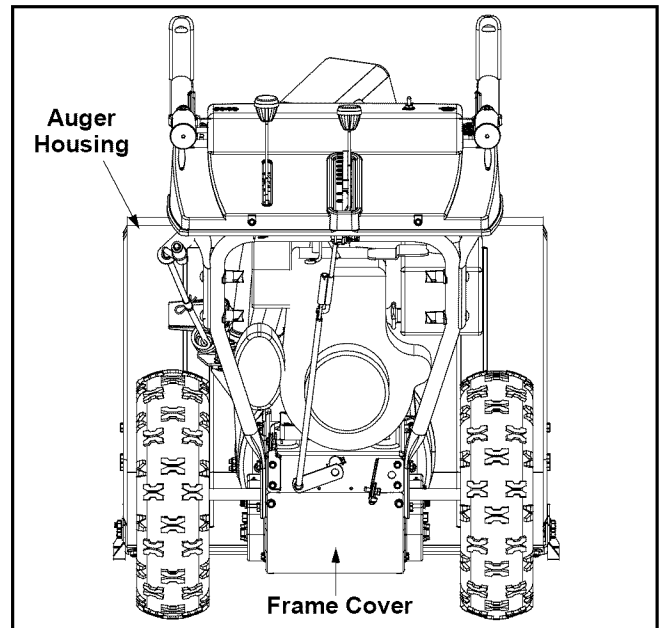

Figure 7
- Tip the snow thrower forward, allowing it to rest on the auger housing. See Figure 7.